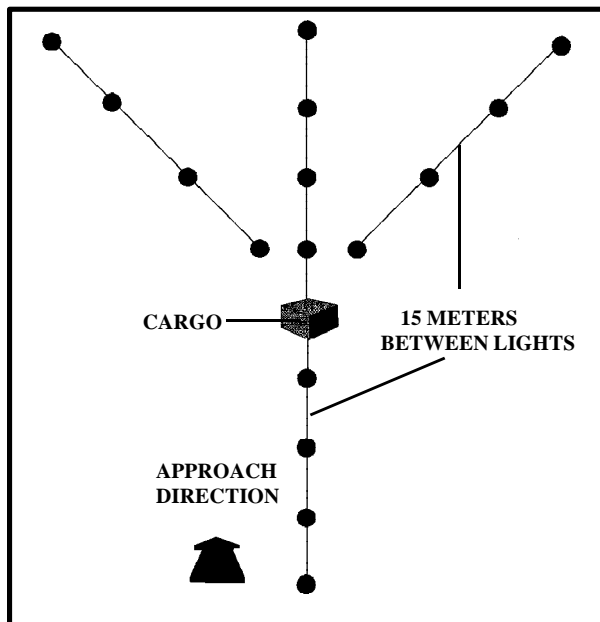

Figure 4-16. Crow's Foot System
**j. Crow's foot.** (USMC) The crow's foot is an optional lighting system used during night operations. Infrared chemlites are attached to tent stakes at 15 meter intervals as shown in figure 4-16.